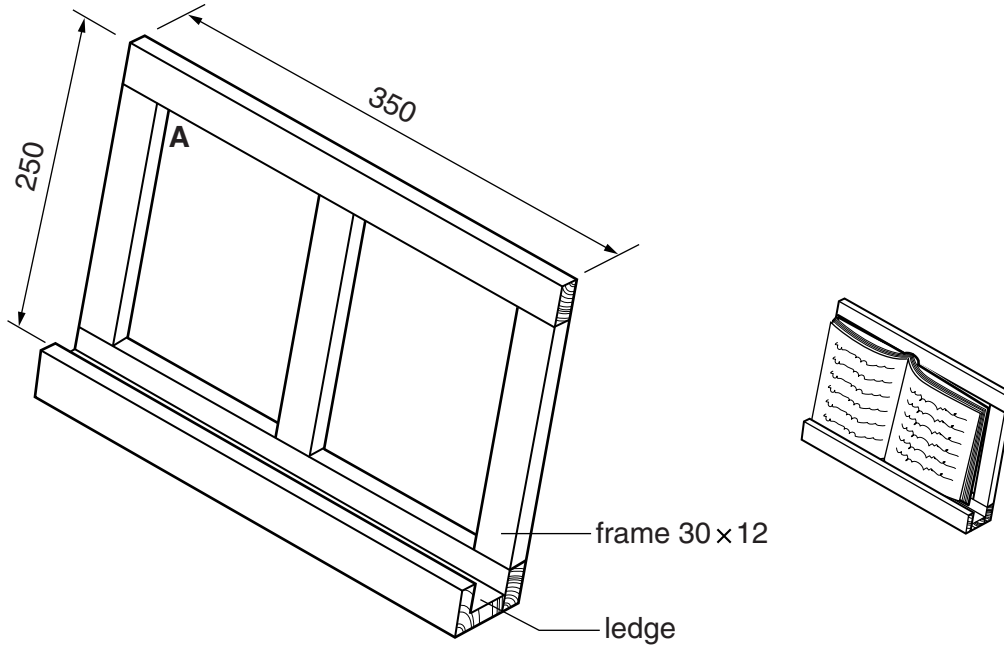

Fig. 6
- 11** Fig. 6 shows an incomplete design for a book stand made from hardwood. The book stand has two main parts: the frame and the ledge.
- (b)** Sketch and name a suitable joint at **A** in Fig. 6.
Use sketches and notes to show how the ledge could be attached to the frame as shown in Fig. 6.